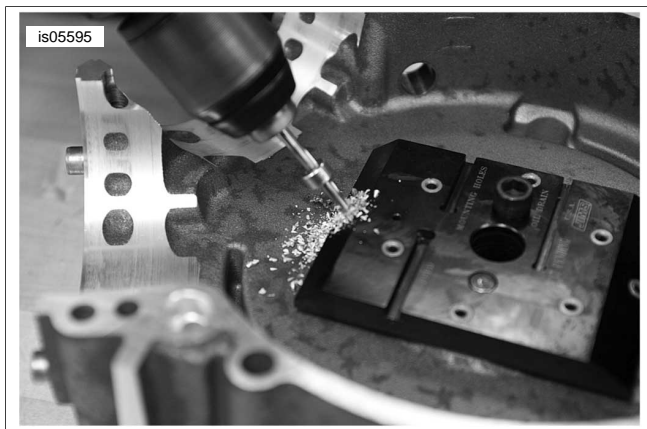

Figure 7. Drilling Oil Feed Hole
15. See Figure 21, Table 3 and Figure 7. Use drill bit (8) assembly to start low speed drilling for the oil feed hole. Allow the drill bit to go through the top guide hole in the press plate. Use tapping fluid as needed to keep the drill bit from clogging. Drill down into the case until the stop collar stops at the press plate.